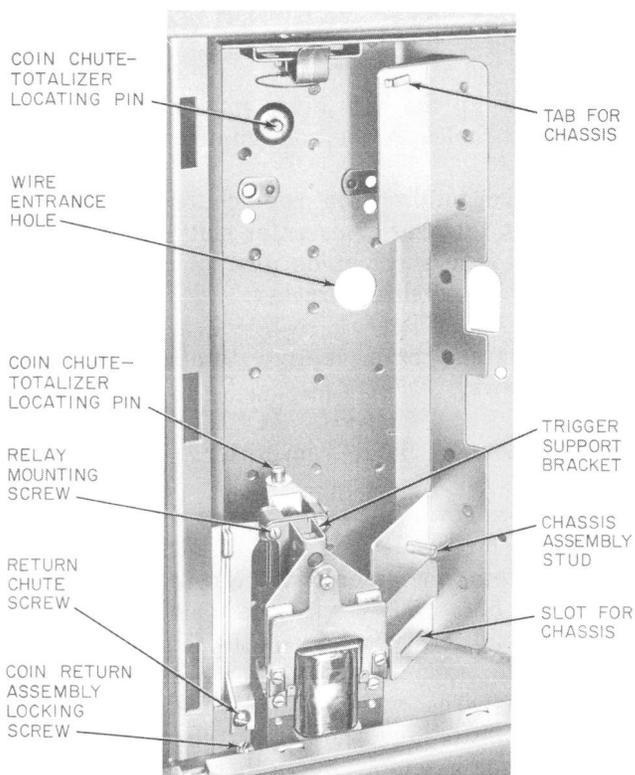
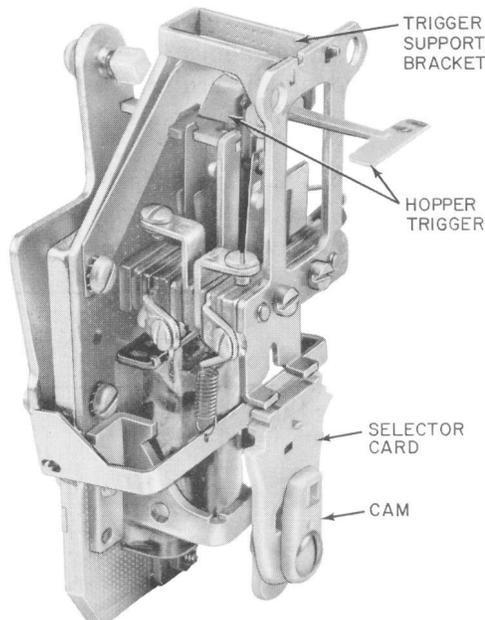

Fig. 7—Housing & Mounting Plate Assembly (Typical)
Fig. 12—Coin Relay
- (1) Place assembly on pins located on rear of hopper assembly, and back of housing (Fig. 7).
- (1) Slide chassis under tab (Fig. 7).
- (2) Seat chassis tabs in slots.
- (1) Disconnect black and yellow leads.
- (2) Remove two screws on top front of coin relay (Fig. 7).
- (3) Remove two hex head screws on sides of coin relay.
- (4) Check that hopper trigger (Fig. 12) is in horizontal (up) position and pull off coin relay. Take care not to damage hopper trigger.
Note: Do not attempt to install relay if trigger support bracket (Fig. 12) is so distorted that mounting holes do not engage bosses on hopper.
- (1) Remove coin chute-totalizer assembly (2.20).
- (2) Loosen screw on return chute assembly (Fig. 7).
- (3) Lift assembly up and off.